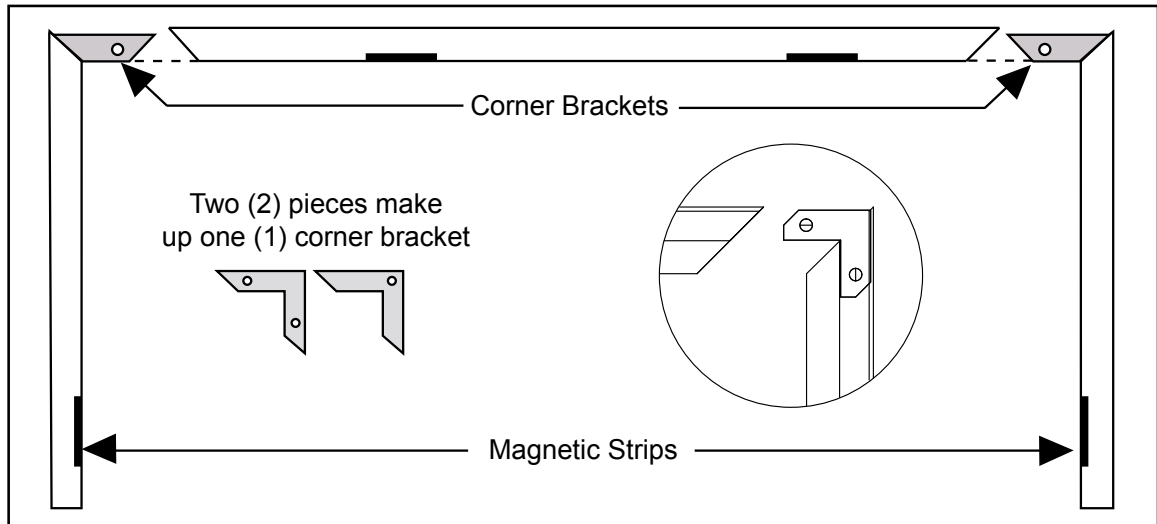

Figure 36: Assembling Trim for Surround Panel.
1. Assemble the trim set using the corner hardware and screws supplied in the surround panel packaging. Install corner hardware into the side trim pieces, then push them into the top trim. Do not over-tighten the corners or the side trim cannot be removed during servicing. See Figure 36.